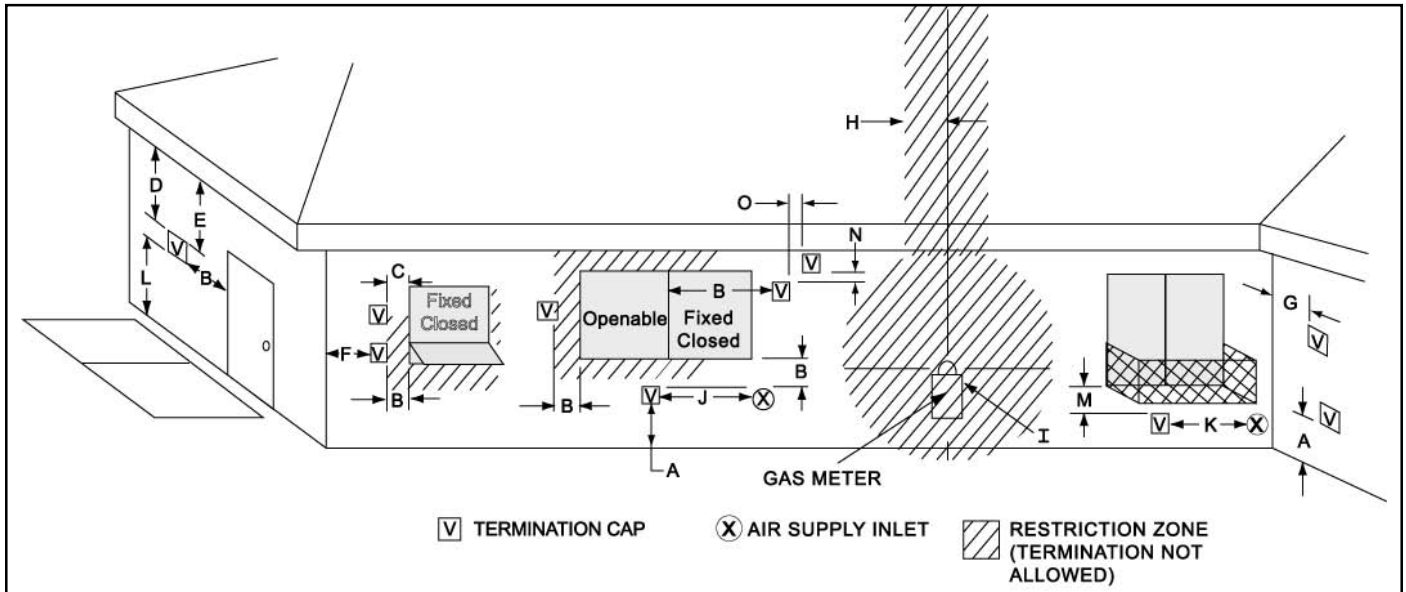

**Figure 5**
- d. Place a ½” bead of RTV in the receiving end of the appliance adapter and insert the end of the rigid B-Vent pipe. Secure the hose clamp to the pipe. Reference Figure 5 and inset in Figure 10 for RTV and hose clamp placement.